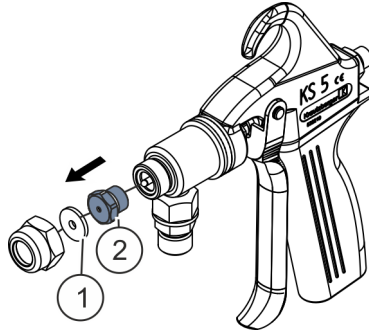

Fig. 9: Unscrew valve seat screw
4. ➔ Unscrew the valve seat screw (Fig. 9/2) together with the screw (Fig. 9/1).